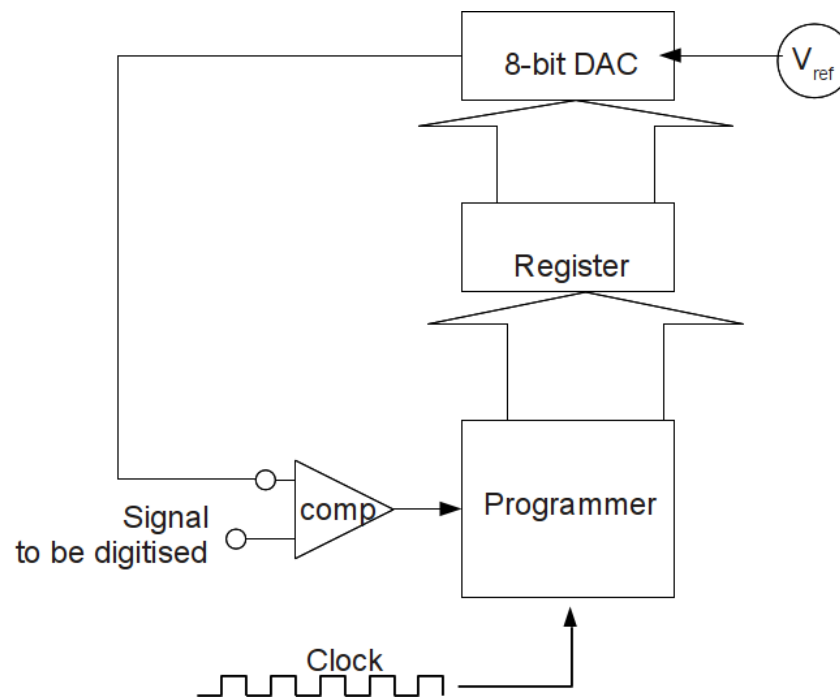

Figure 6: Successive Approximation ADC (block diagram)
- Explain the purpose and function of each of the components of the Successive Approximation Converter shown in Figure 6.
- The Successive Approximation ADC in Figure 6 is to be used to digitise a time varying signal whose maximum frequency is 10 kHz and which is always positive. The ADC reference voltage is 1 V and each bit cycle of the converter requires 40 clock periods. If two 8-bit samples are to be acquired for each period of the signal what is the clock speed required to achieve this with 1 bit resolution?